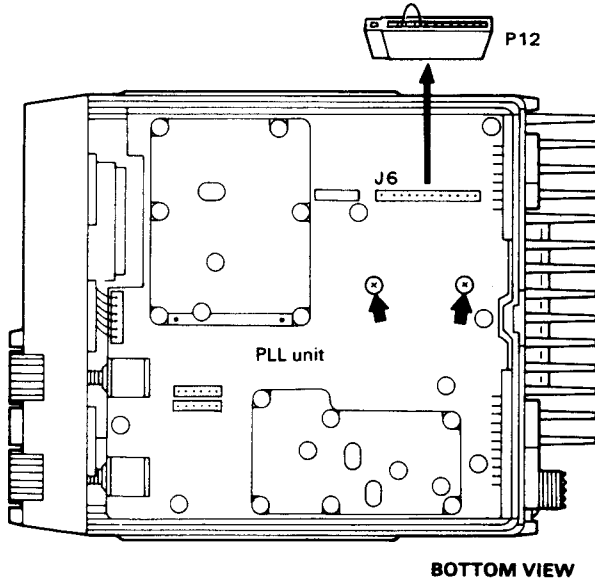

Fig. 3-2
4. Installing KQT-1 (Fig. 3-2, 3-3)